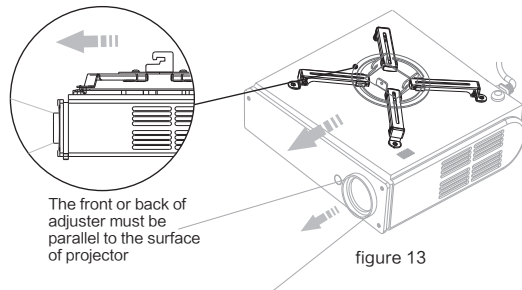

figure 13
5. The front or back of adjuster must be parallel to the surface of projector as figure 13.